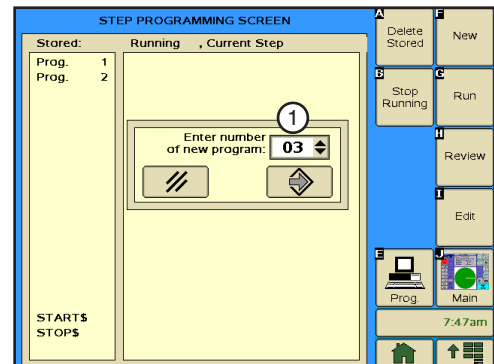

Figure 122-2 1. New Program Number Field
4. Program the date and time condition for this step, do the following. Refer to Figure 122-2.